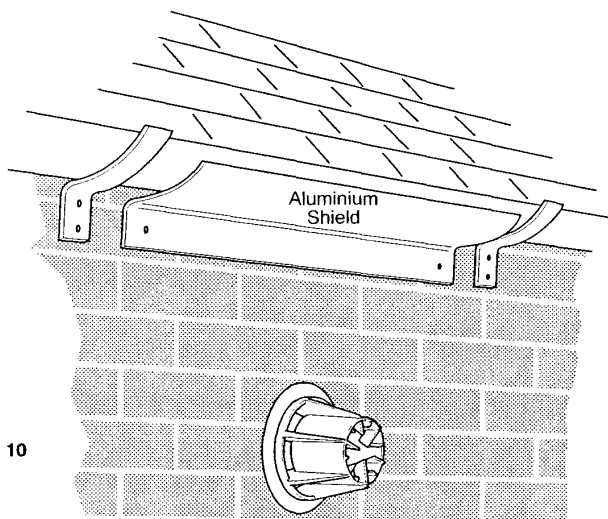

Fig. 10
3. If the terminal is fitted within 1 metre (39in) of a plastic gutter, within 500mm (191/2 in) of a painted eave or a painted gutter, an aluminium shield of at least 1 metre (39in) long should be fitted to the underside of the gutter or painted surface. An air space of 5mm (3/16 in) should be left between shield and gutter (Fig. 10).